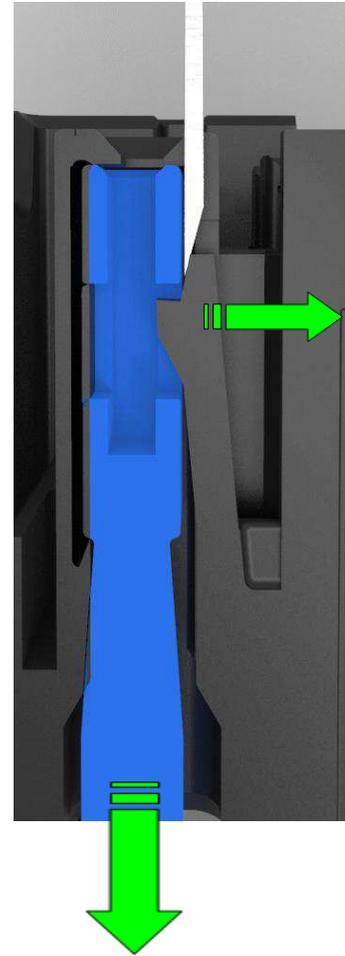

Figure 44
3. Using the 2.8mm service tool or small screwdriver, gently deflect the plastic terminal latch within the connector housing. See Figure 44.